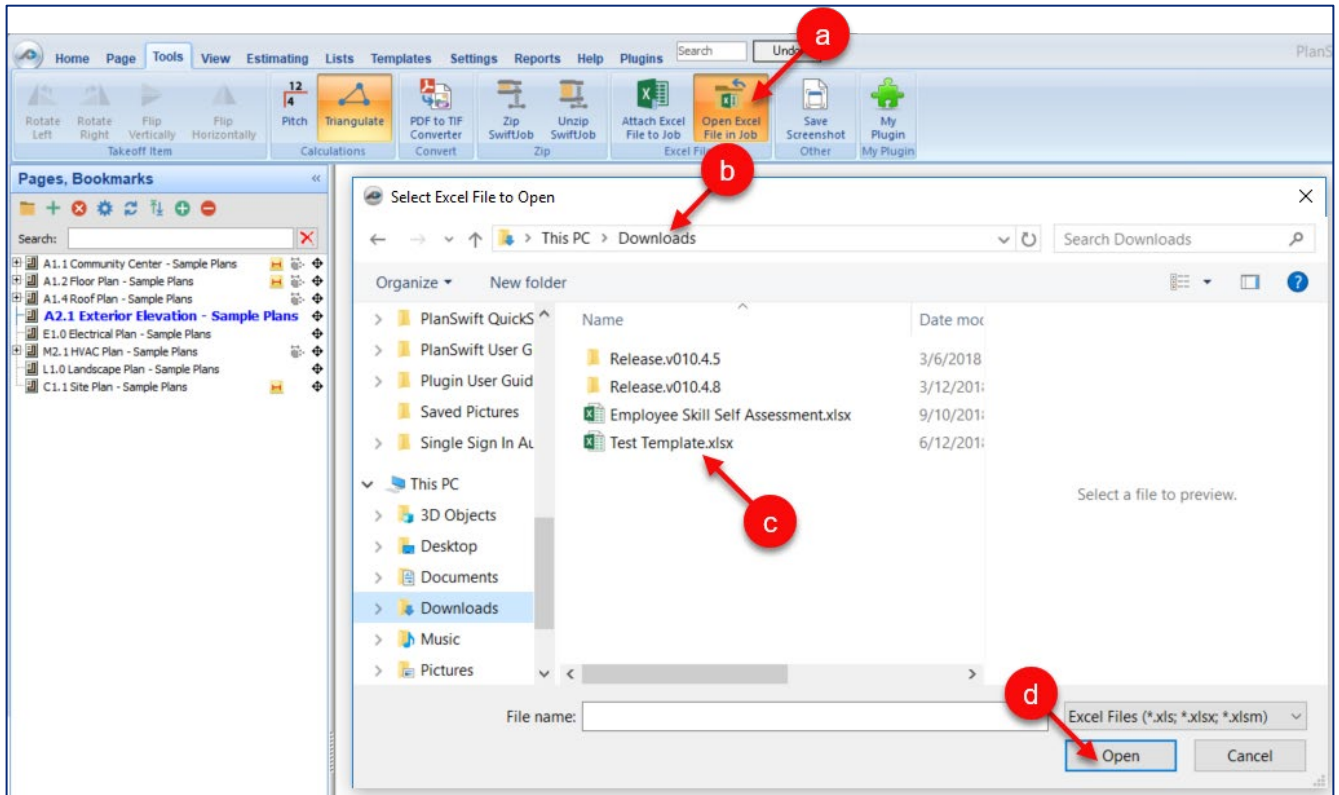

Figure 48-G
- a. Click on **Save Screenshot** from the **Tools** tab (Fig. 48-H).